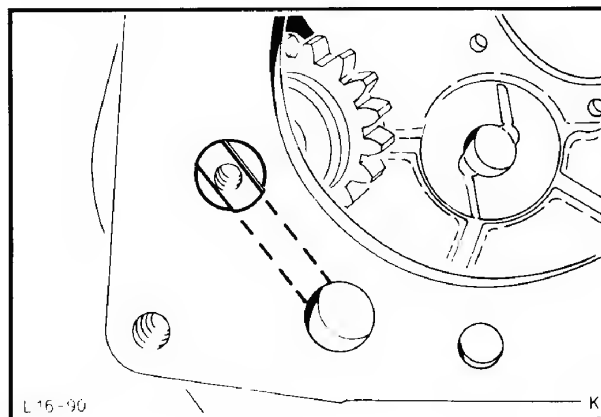

Fig. 92. Position of reverse gear shaft when fitted
**Rear flat end must line up on countershaft bore, Fig. 92.**